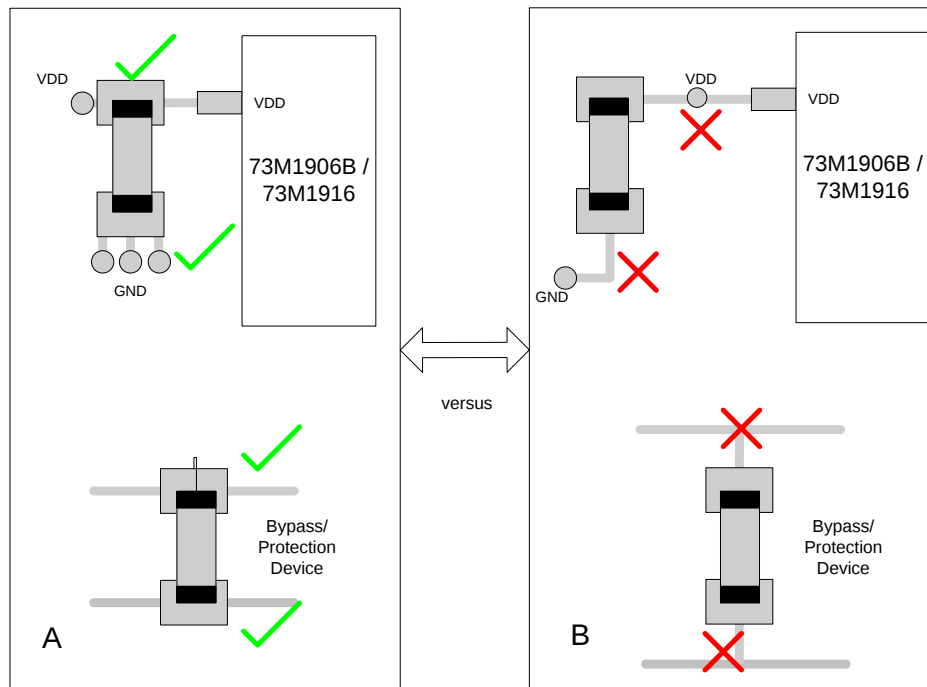

Figure 3: Layout and Routing of Power/Bypass Capacitors
- Pay special attention to the way the power and bypass capacitors are connected to the 73M1866B/1966B, as in Figure 3 A. PCB traces from the bypass capacitors to the VDD positive supply should be kept as short as possible.